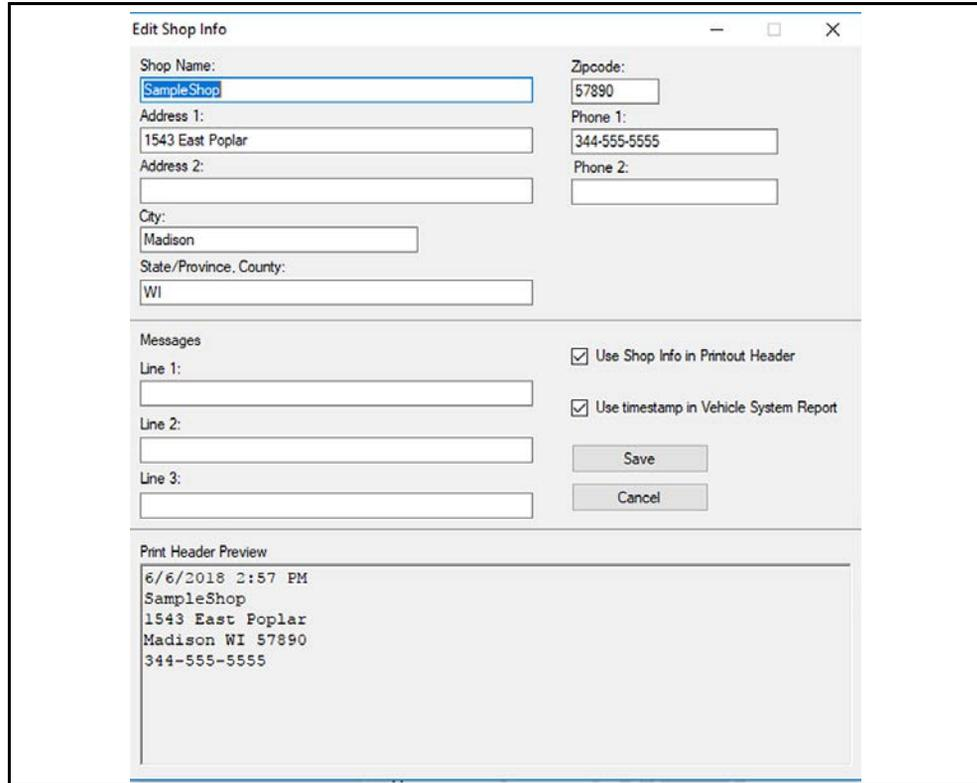

Figure 5-13
2. The **Shop Info** dialog box opens (Figure 5-13) allowing you to enter the name address, and phone number for your shop. This information is included as a header on the report.
A preview panel at the bottom of the box shows how the information will appear on a print out (Figure 5-13).
3. Check the “**Use Shop Info in Printout Header**” box to show the Shop Info in the printout (Figure 5-13).
4. Check the “**Use timestamp in Vehicle System Report**” box to show the time the vehicle was scanned in the printout (Figure 5-13).
5. When you are finished editing, select **Save** (Figure 5-13) to save the information and close the dialog box.